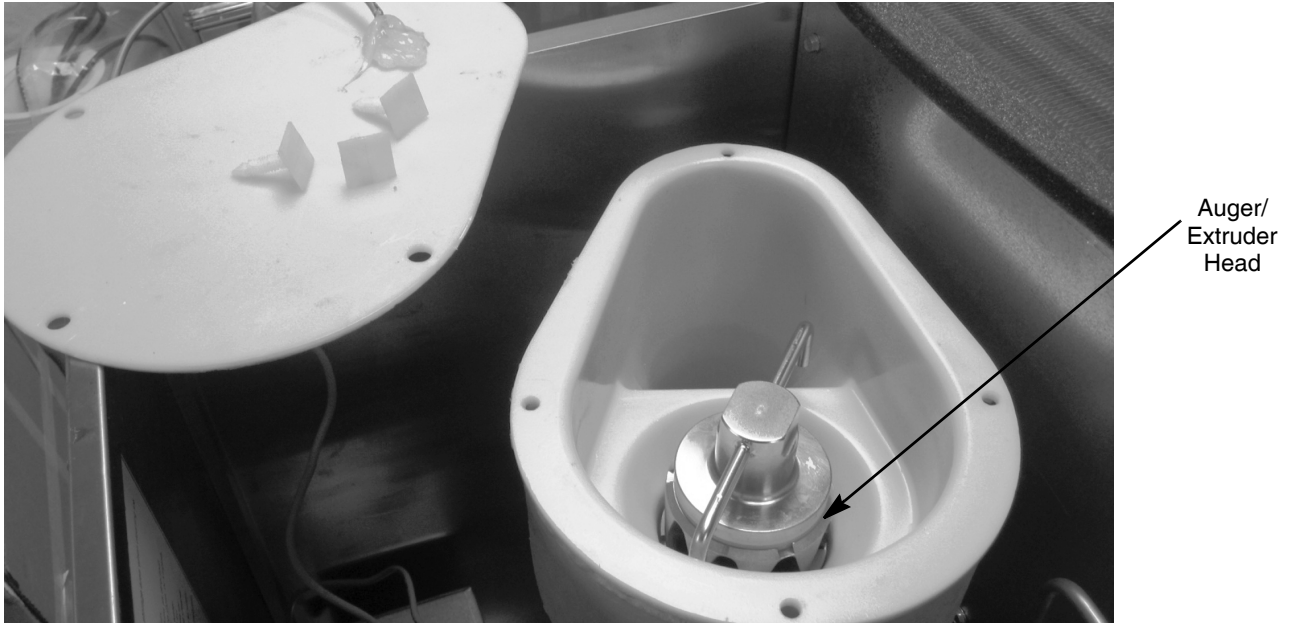

Figure 7.
1. Install the extruder head on top of the evaporator, as shown in Figure 7.